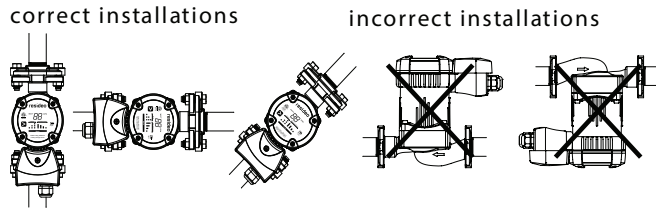

Fig. 1. Mounting the AquaPUMP variable speed circulator
2. Install the pump with the motor shaft horizontal (see Fig. 1).